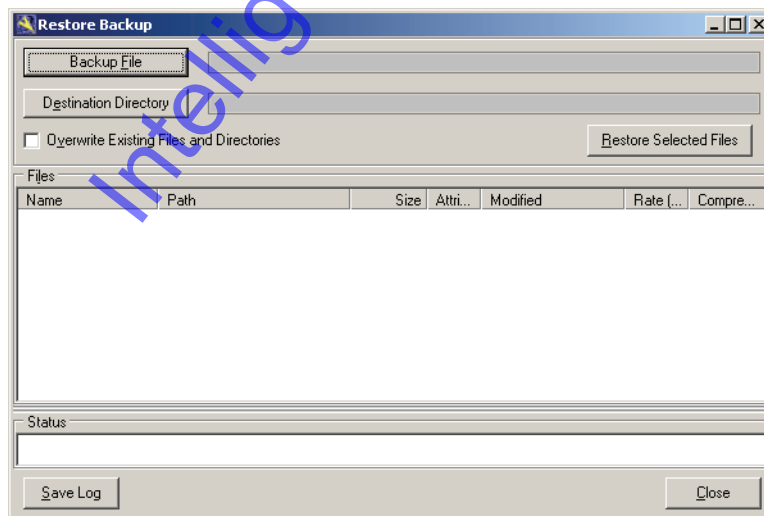

Figure 5-61: Restore Backup Window
2. To begin the restore backup process, click the Tools ⇒ Restore Backup pull-down menu. The Restore Backup window appears (see Figure 5-61).